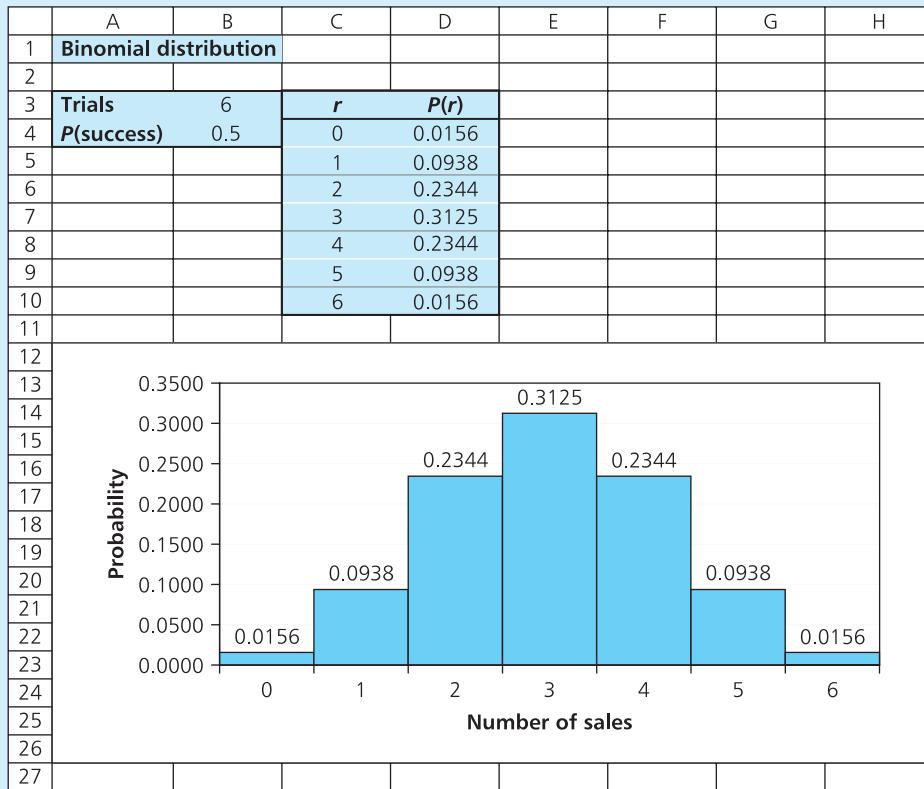

Figure 15.2 Binomial probability distribution for Jenny Albright
- We can substitute other values for r into the equation and get corresponding values for the probabilities. However, we can take a short cut, and in Figure 15.2 we have used Excel's standard 'BINOMDIST' function to automatically calculate the probabilities.